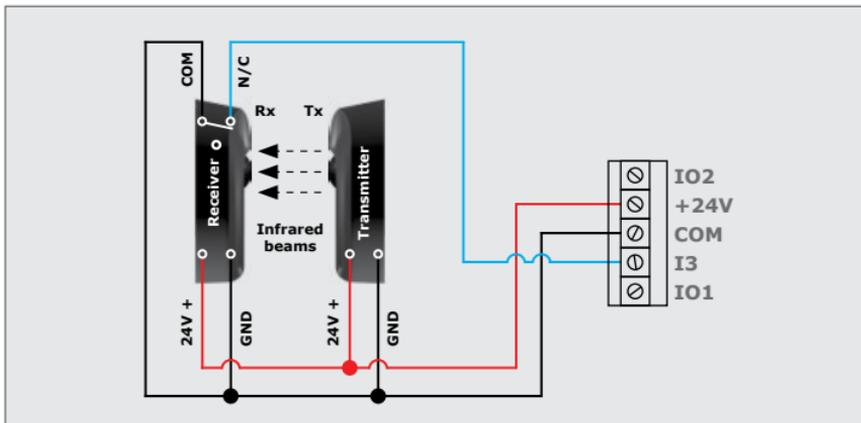

FIGURE 83. WIRING 15 SAFETY BEAMS TO THE SDO5 SMART+ (FOUR-WIRE)
- The trigger/TRG (green wire) in Figures 83, 84 and 85 can be either wired into IO1 or IO2, depending on the sites individual needs